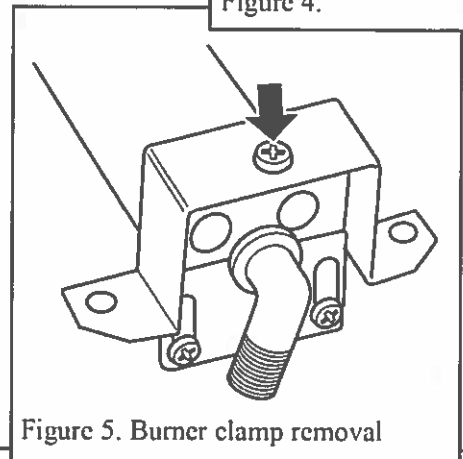

Figure 5. Burner clamp removal
5. Unscrew and remove the burner clamp from the natural gas burner (See figure 5). Fit this to the LPG burner.